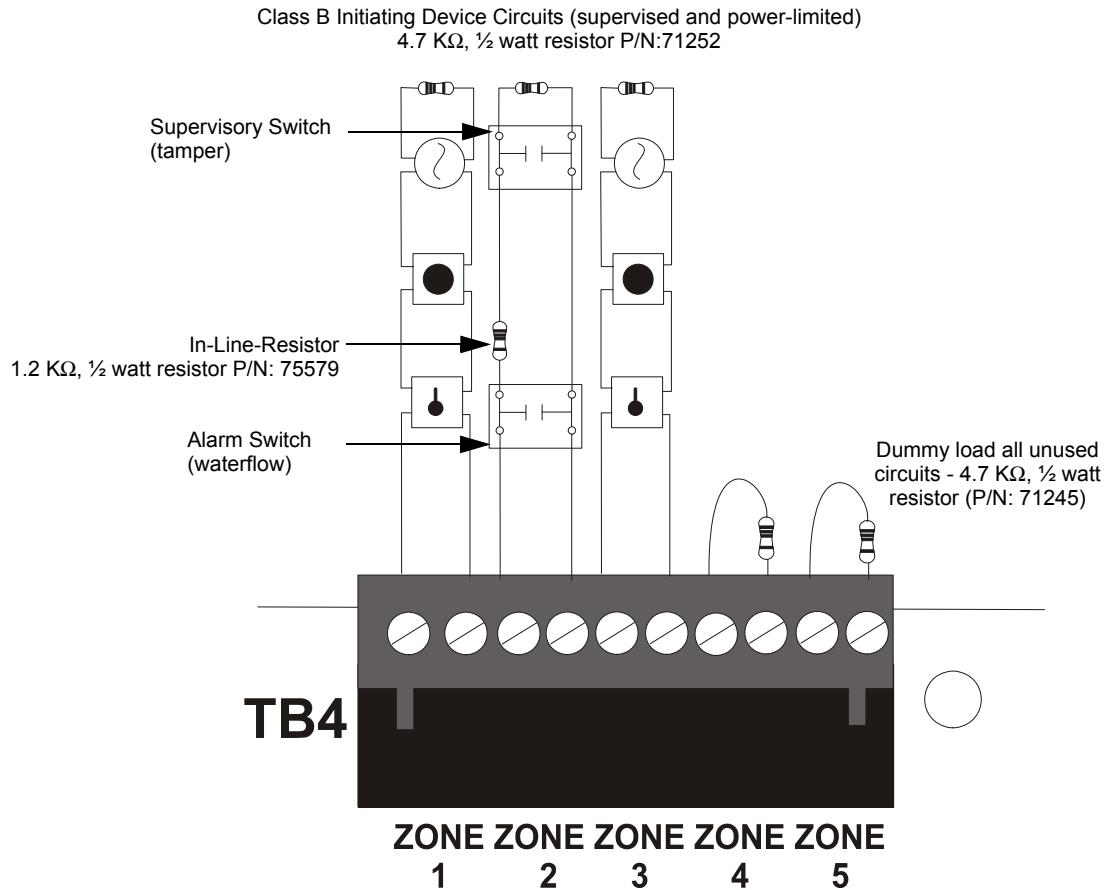

Figure 2.6 Style B Combination Circuit on Zone 2
- ✓ The Waterflow Alarm Switch must connect to the FACP Initiating Device Circuit before the In-Line Resistor as shown in Figure 2.6.
- ✓ The Supervisory Switch must connect to the FACP Initiating Device Circuit after the In-Line Resistor as shown in Figure 2.6.